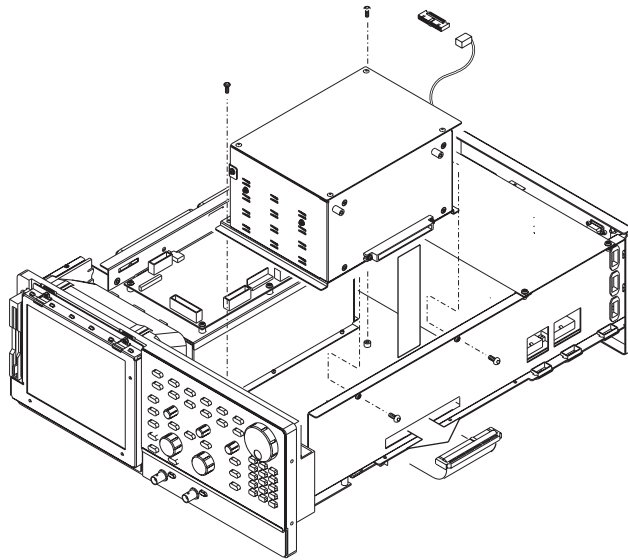

Figure 1: Removing the CPU unit
4. Use a screw driver with a #2 Phillips tip to remove the four screws securing the CPU unit to the bottom and right side of the main chassis. See Figure 1.
5. Lift the CPU unit up and out from the main chassis. See Figure 1.
1. Use a screw driver with a #2 Phillips tip to install the four screws securing the CPU unit to the bottom and the right side of the main chassis. See Figure 1 on page 4.